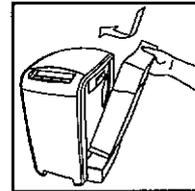

Fig. 14
- Reinsert the tank into the air washer water basin (Fig. 14).